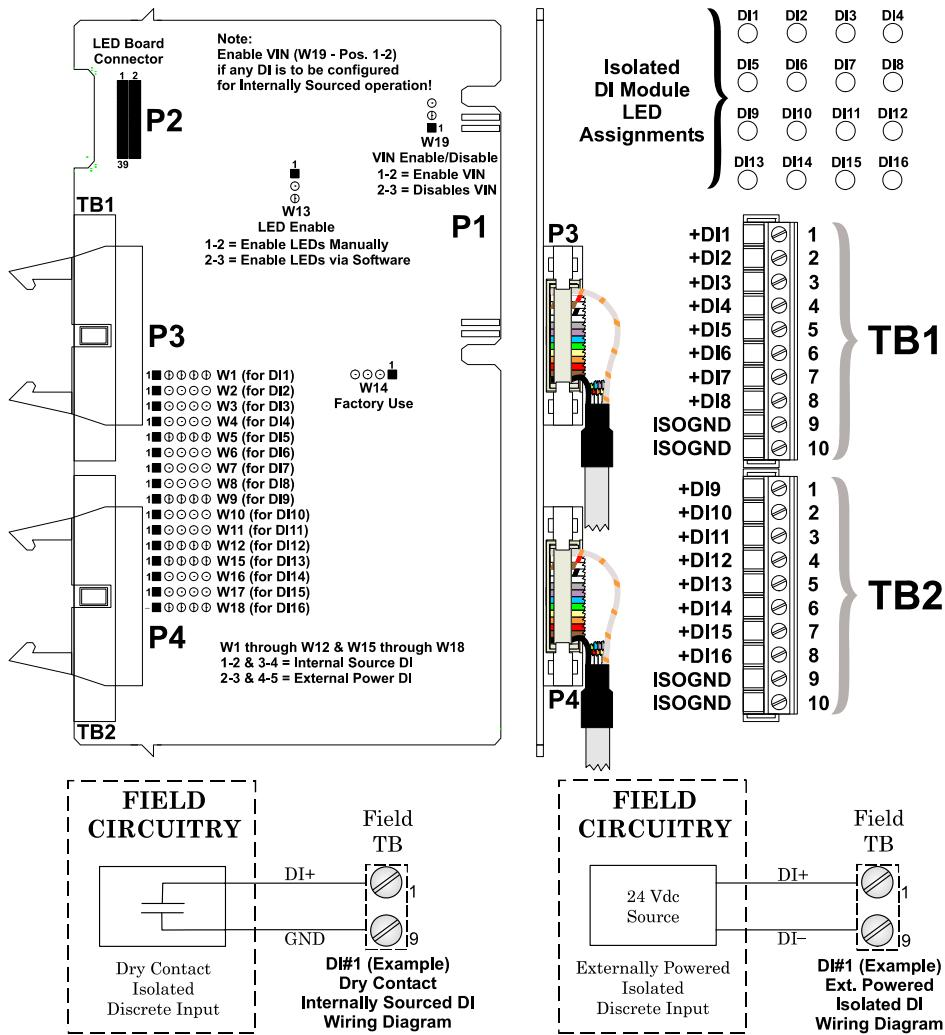
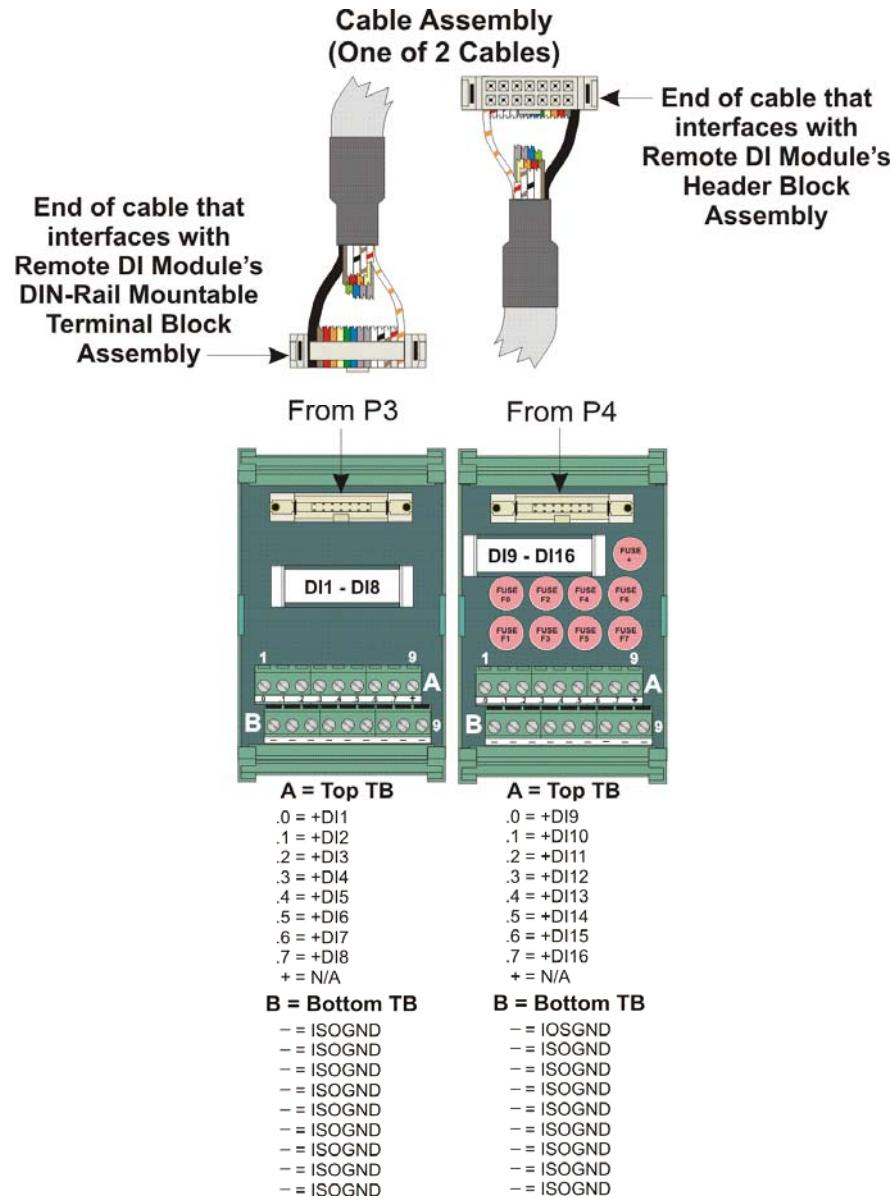
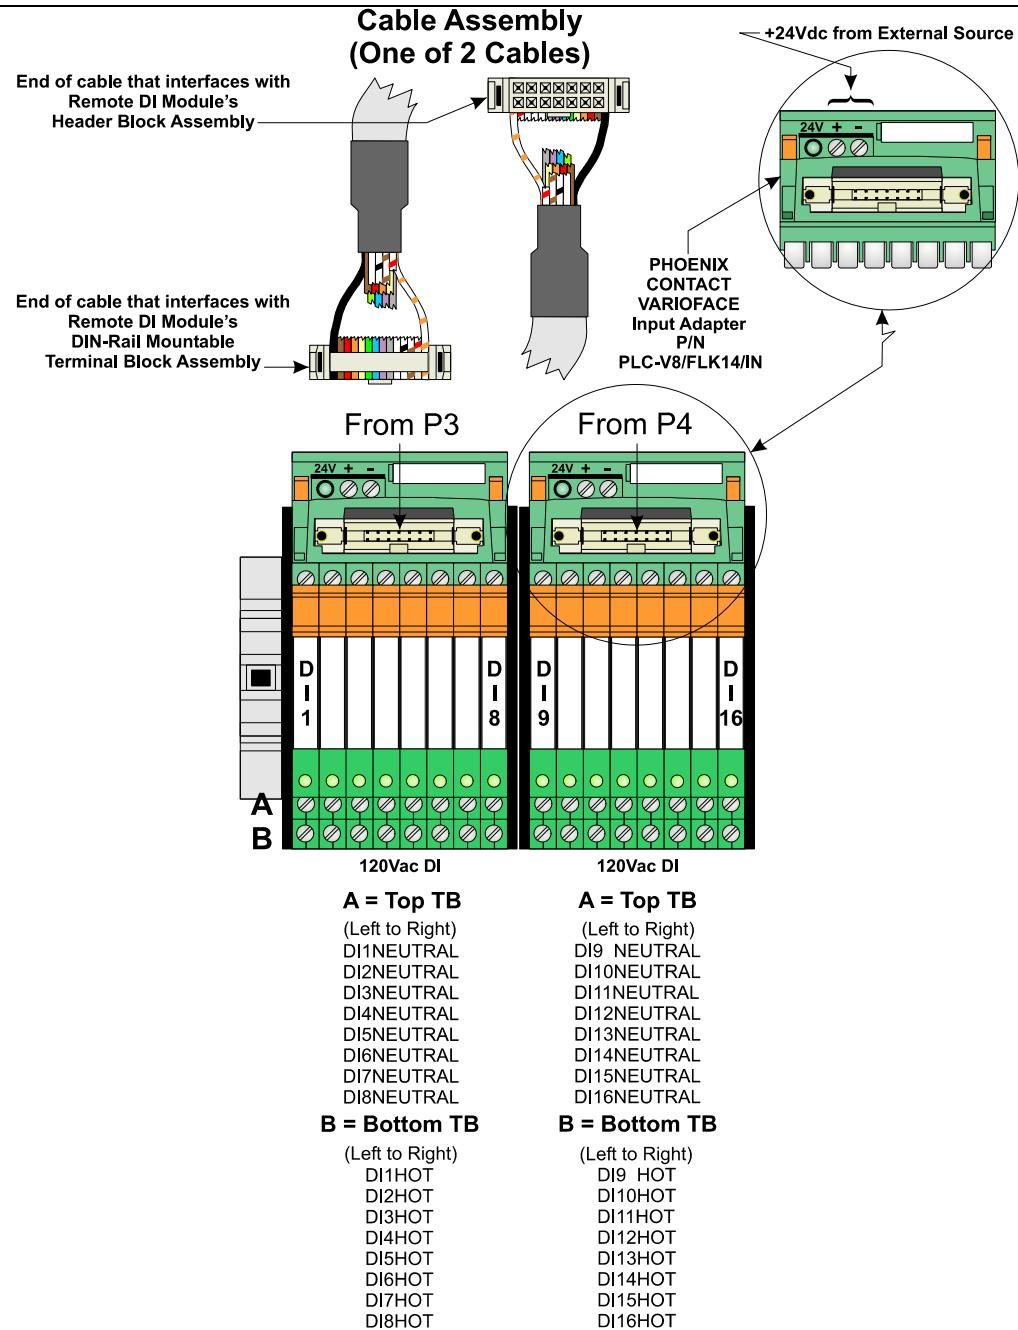

Figure 3-3. Isolated DI Module (Local Termination)
Figure 3-4. Isolated DI Module (Remote Termination, Internally Sourced or Externally Powered)
Figure 3-5. Isolated DI Module (Remote Termination, Internally Sourced or Externally Powered with and without Fuses)
**Wiring the Module** *Figure 3-3* shows field wiring assignments associated with locally terminated DI modules; *Figure 3-4* shows field wiring assignments associated with remotely terminated DI modules. *Figure 3-5* shows an optional remote termination module with built-in discrete relay module that supports input from 120 Vac DIs. The special remote termination module (with built-in discrete relay module) interfaces with an externally sourced DI module.
Figure 3-4 shows the wiring assignments associated with a DIN-rail mounted terminal block assembly for a DI module associated with either internally sourced or externally powered operation. Figure 3-5 shows the wiring assignments associated with a DIN-rail mounted terminal block assembly for a DI module associated with relay isolated 120 Vac operation.